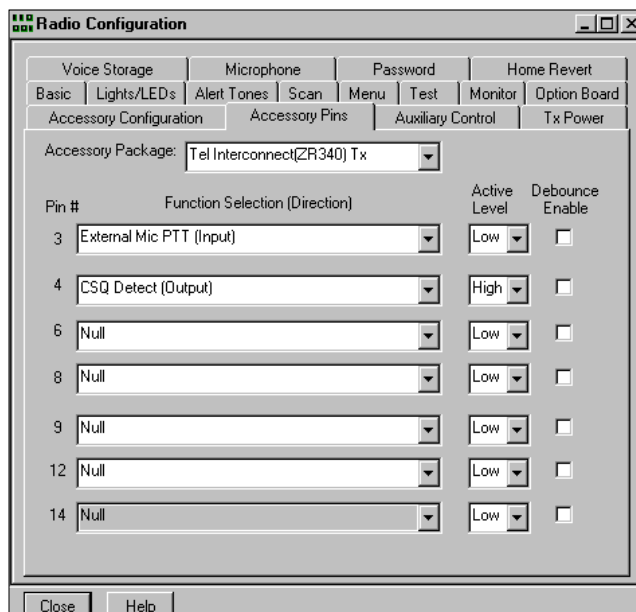

Figure 11-6. Radio Configuration, Accessory Pins, Transmit Radio
- Click the “Accessory Package” dropdown arrow button. Select “Tel Interconnect (ZR340) Tx”. Verify pin 3 is defined as “External Mic PTT (Input)”, Active Level “Low” and pin 4 is defined as “CSQ Detect (Output)”, Active Level “High”. Your screen should appear similar to Figure 11-6.